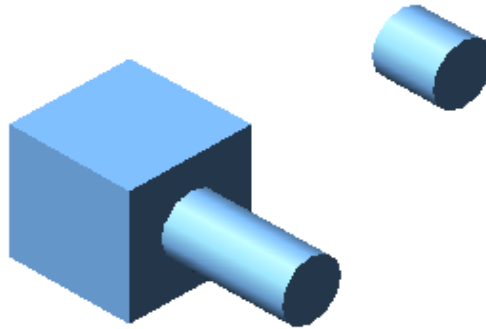

Figure Step 14
Step 14 Set the current visual style to Realistic. (Figure Step 14)